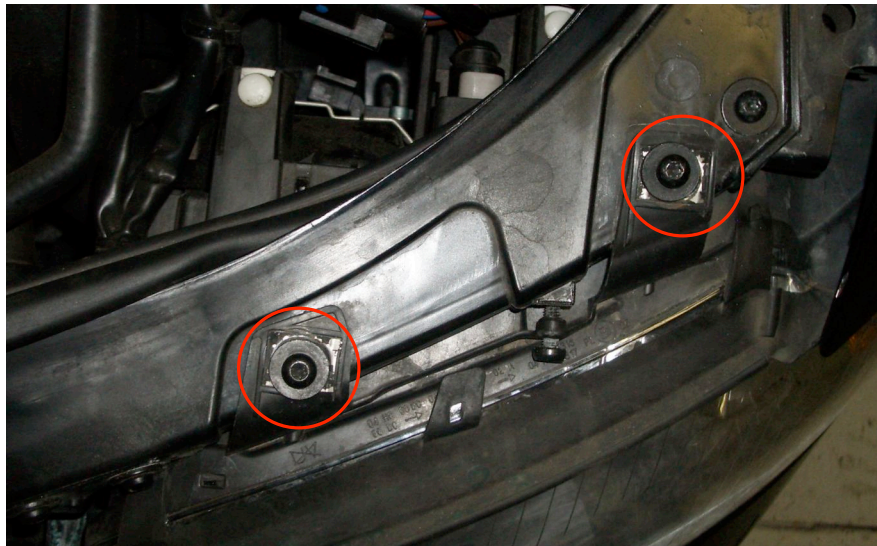

Figure 4
- 5) Remove the driver and passenger side headlights. Each headlight is held in by 4 T27 Torx bolts. The 2 upper torx bolts located on the radiator support need to be completely removed. The lower 2 bolts need to be loosened several turns but it is much easier if the lower 2 bolts are NOT removed. Once the headlight can be slid out of the car toward the front, the headlight connector(s) need to be removed. See figures 4, 5 and 6 below.